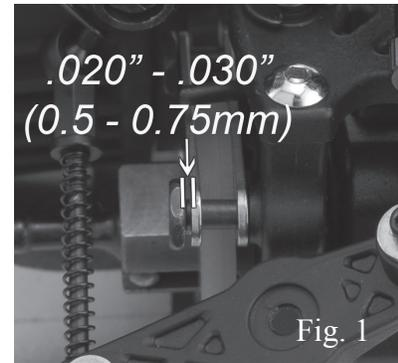

Fig. 1
3. Using a 4-40 washer as a gauge, adjust the brake screw to set the gap between the head of the screw and the brake pad to .020 - .030" (0.5 - 0.75mm). The washer should fit snug into the gap. (Fig. 1)